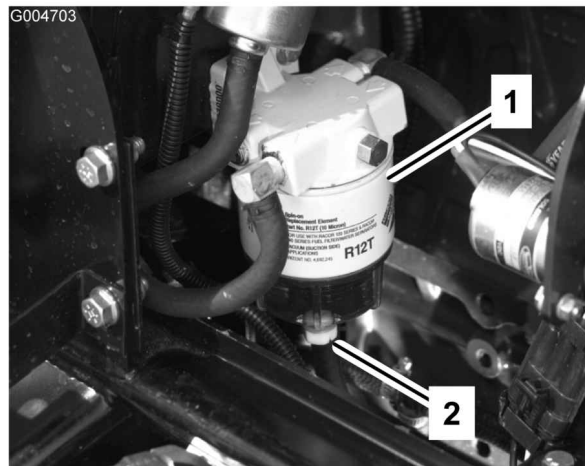

Figure 50
Drain water or other contaminants from the water separator (Figure 50) daily.
2. Loosen the drain plug on the bottom of the filter canister (Figure 50). Tighten the plug after draining.